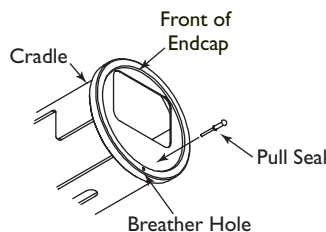

FIGURE 14 Inserting the Pull Seal
3. Insert the long end of the pull seal into the breather hole starting from the front of the endcap (see FIGURE 14).